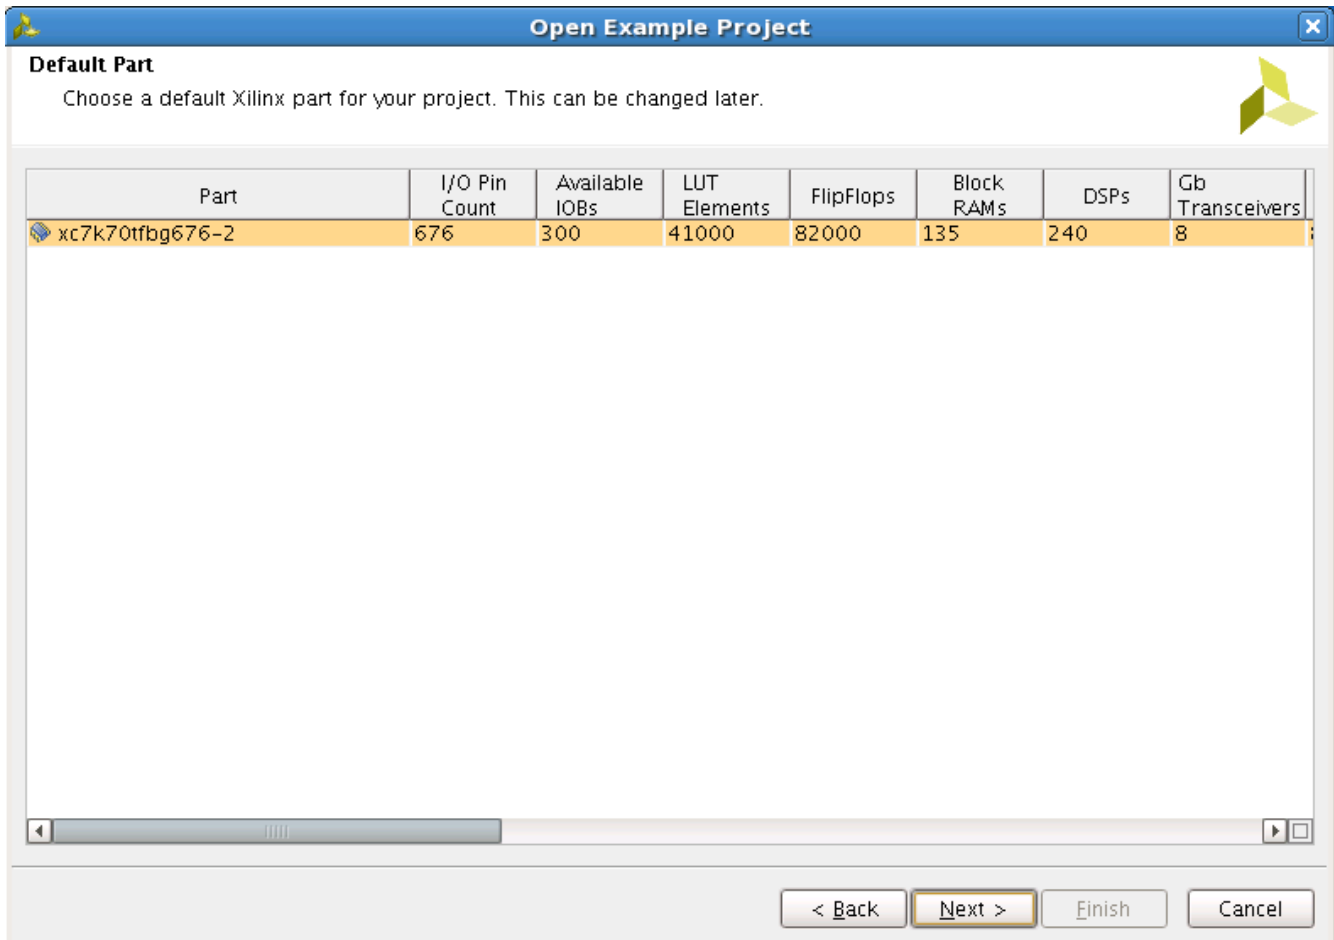

Figure 5: Default Part Page of the Open Example Project Wizard
9. In the Default Part page, select the default part as shown in Figure 5.